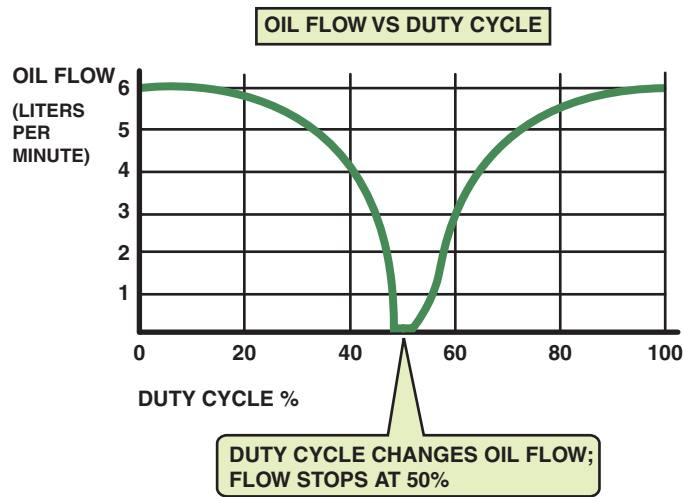

FIGURE 8 When the PCM commands 50% duty cycle, the oil flow through the phaser drops to zero.
- **50% pulse width**—The PCM is holding the cam in the calculated position based on engine RPM and load. At 50% pulse width, the oil flow through the phaser drops to zero. ● SEE FIGURE 8.